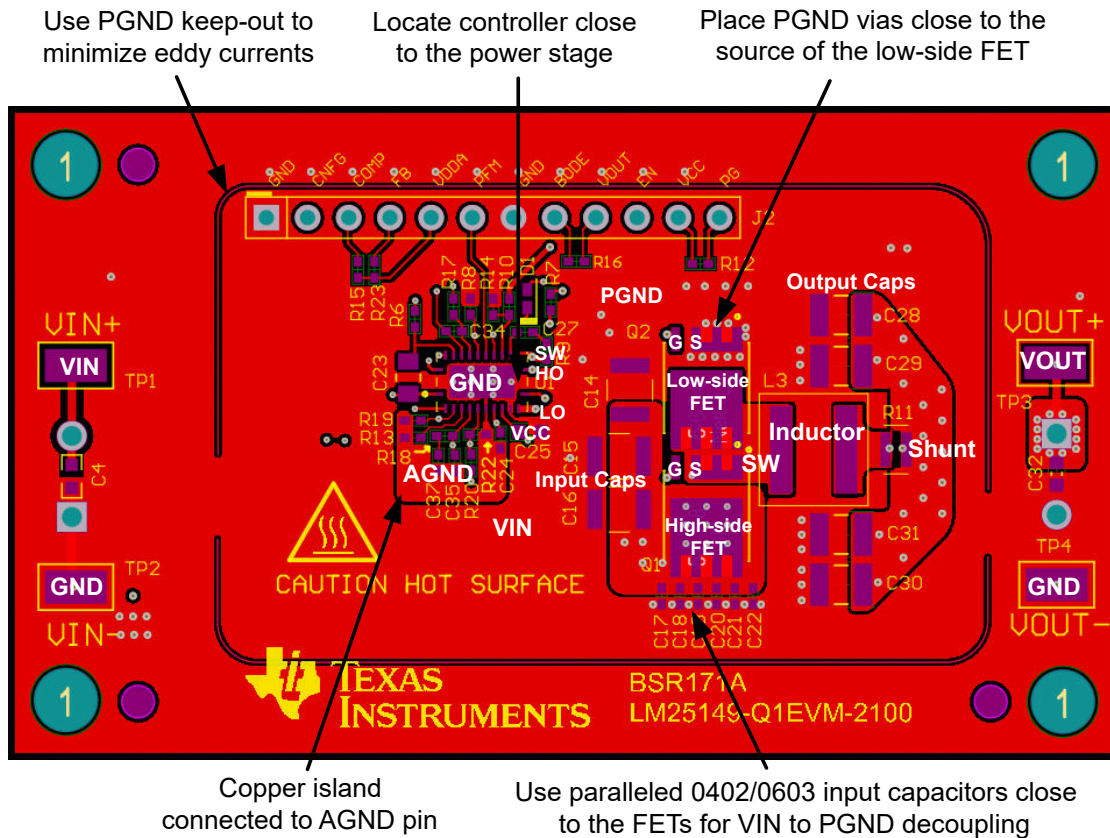

图 9-48. PCB Top Layer – High Density, Single-sided Design
- Connect AVSS to a quiet GND connection, further from IC if possible. Keep decoupling capacitor  $C_{AEFVDDA}$  close to the AEFVDDA pin and AVSS GND connection. See capacitor C23 in 图 9-48.
图 9-48 shows a single-sided layout of a synchronous buck regulator with discrete power MOSFETs, Q1 and Q2, in SON 5-mm × 6-mm case size. The power stage is surrounded by a GND pad geometry to connect an EMI shield if needed. The design uses layer 2 of the PCB as a power-loop return path directly underneath the top layer to create a low-area switching power loop of approximately 2 mm2. This loop area, and hence parasitic inductance, must be as small as possible to minimize EMI as well as switch-node voltage overshoot and ringing.
- Make the ground connections to the LM5149 controller as shown in 图 9-48. Create a power ground directly connected to all high-power components and an analog ground plane for sensitive analog components. The analog ground plane for AGND and power ground plane for PGND must be connected at a single point directly under the IC – at the die attach pad (DAP).